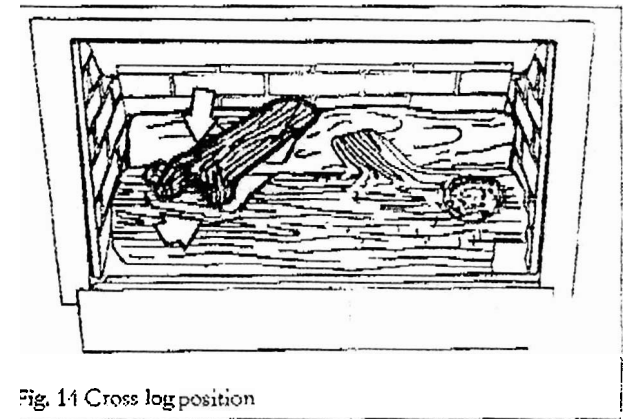

Fig. 14 Cross log position
- 12.5 Place the cross log in position. The front of this log is indicated by the letter "F" embossed underneath. Make sure that the front of the cross log is seated inside the hollow in the front log and is not raised in front of it (see figure 14).